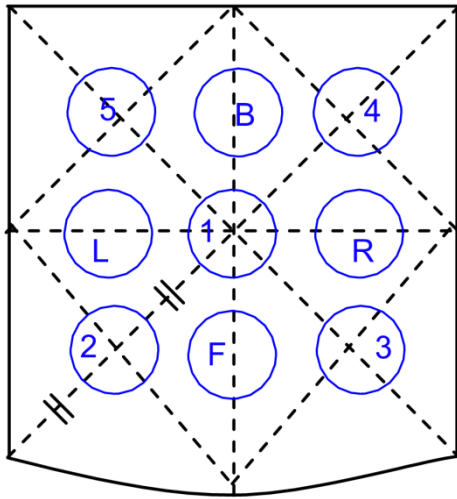

Fig.28
- Dismount ASSY, CASE (3) following "3. Inspection of the Balance Interior.
- Insert CAP, PAN SUPPORTER (5) to PAN SUPPORTER ASSY(4) and Install PAN ASSY(6).
- Move the weight in the order of "□ L □ R □ F □ B □ Center(1)" (off-center positions are shown in Fig.28) and record the reading of each position.